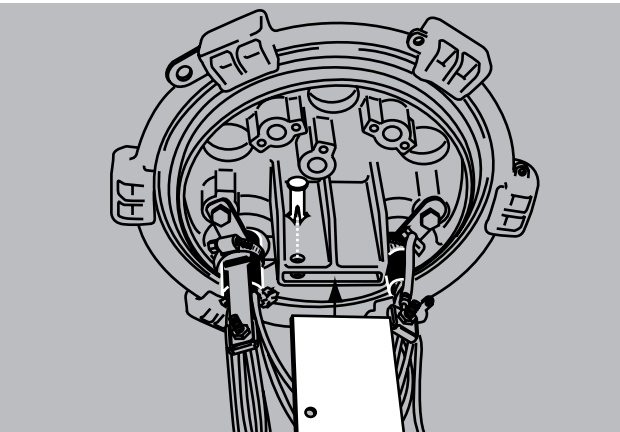

Figure 23
23. Slide the splice tray mounting plate into the end plate holder and lock in position with the pin provided. (Figure 23)